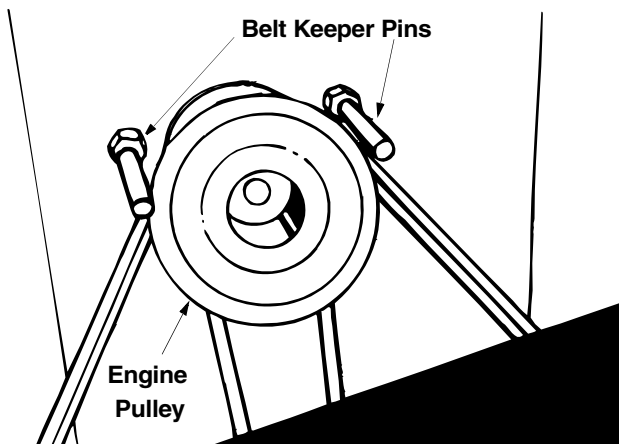
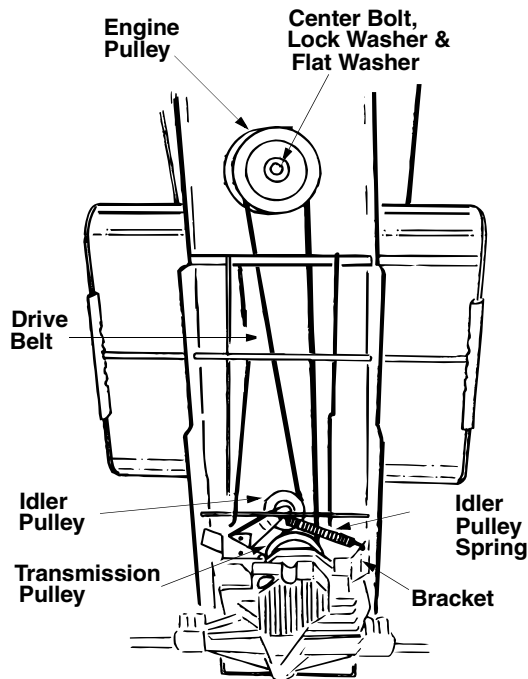

Figure 19
Figure 22
NOTE: Figure 19 and Figure 22 are shown with the unit tipped up for clarity. It is not necessary to tip the unit to remove the belts. However, for convenience, if you decide to tip it, remove the battery from the unit first.
NOTE: When reassembling, make certain belt keeper pins are assembled in the same locations from which they were removed. See Figure 19 .
- Remove the belt keeper pins from the lower frame. Refer to Figure 19 .
- Disconnect the idler pulley spring which is attached to a bracket on the frame, inside the left rear wheel. Use a spring puller or other suitable tool. See Figure 22 .
- Remove the center bolt, lock washer and flat washer, and let the engine pulley drop down so the belt is past the belt guards. See Figure 22 .